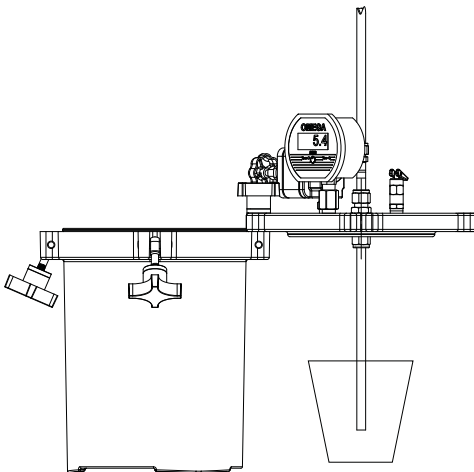

Figure 2.
3. Remove the tank cover and temporarily store it by reattaching one of the clamps (Figure 2). When refilling the tank, use a cup (not included) to catch any excess material that drips from the feed tube.